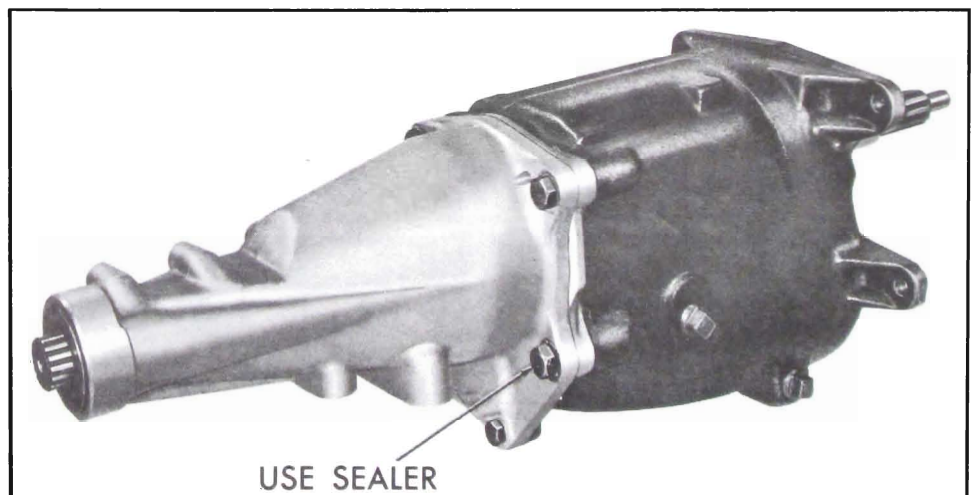

Figure 4-110—Sealing Case Extension Attaching Bolt
44. Install three extension and retainer to case attaching bolts (torque to 35 to 45 ft. lbs.) and two extension to retainer attaching bolts (torque to 20 to 30 ft. lbs.). Use a suitable sealer on the lower right attaching bolt as viewed from rear. See Figure 4-110.